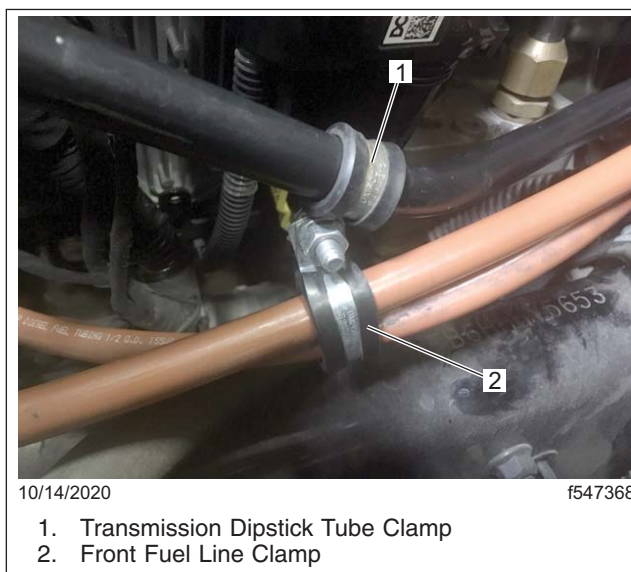

Fig 21 Front Fuel Line and Transmission Dipstick Tube Clamps
2. Install front fuel line clamp and transmission dipstick tube clamp using the original clamps and fasteners. See **Fig. 21**.